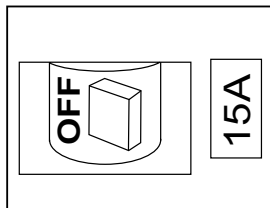

Figure 17. AC Circuit Breaker (OFF)
2. **NEVER** start the engine with the AC circuit breaker in the **ON** position. Always place AC circuit breaker (Figure 17) in the **OFF** position before starting.